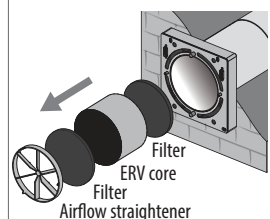

Figure 14
- a) Remove the airflow straightener, first filter, ERV core and second filter from the telescopic duct as shown in Figure 14. To remove the ERV core, pull the specially designed cord and use caution to avoid damage.